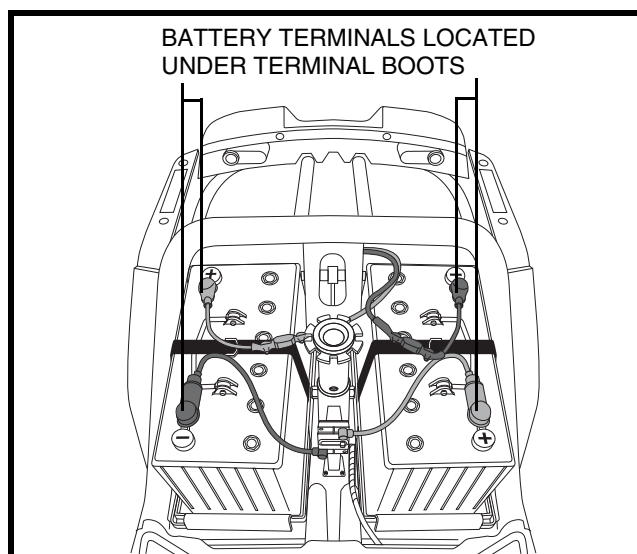

Figure 15. Battery Cable Removal/Replacement
5. Disconnect the battery cables from the battery terminals by sliding back the terminal boots and unscrewing the nut from the bolt. **See figure 15.**